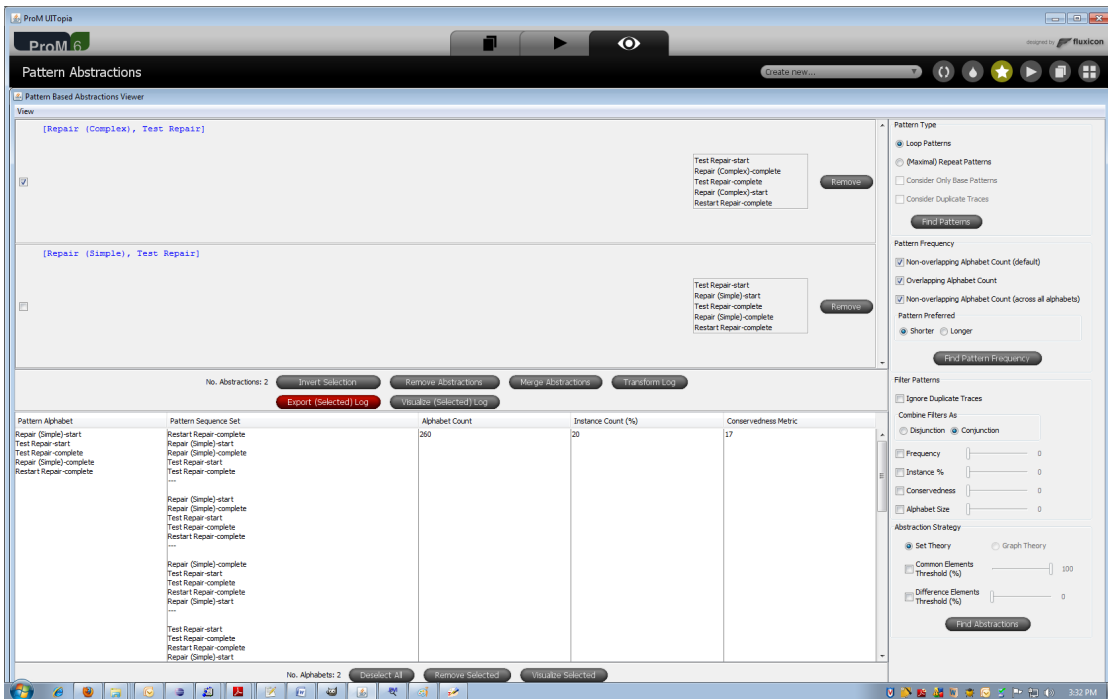

Figure 13: Selecting the cases where a particular path is executed
- Click “Find Abstractions” Button. You should get a screen like the one in Figure 13.